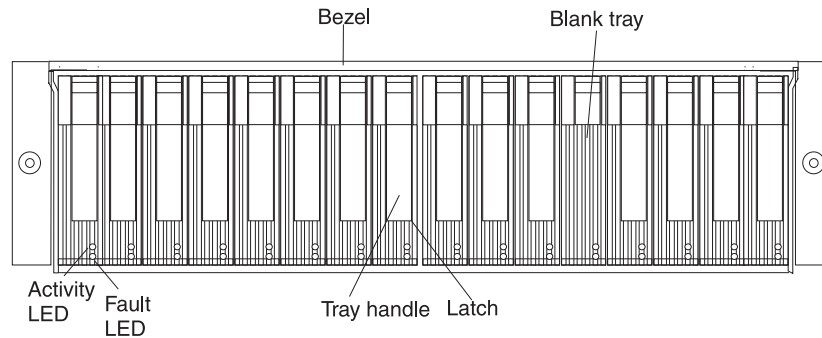

Figure 79. Hot-swap E-DDM LEDs
2. Check for Fault LEDs shown in Figure 79 on page 129. If any amber LEDs are lit, see "Solving problems" on page 153.